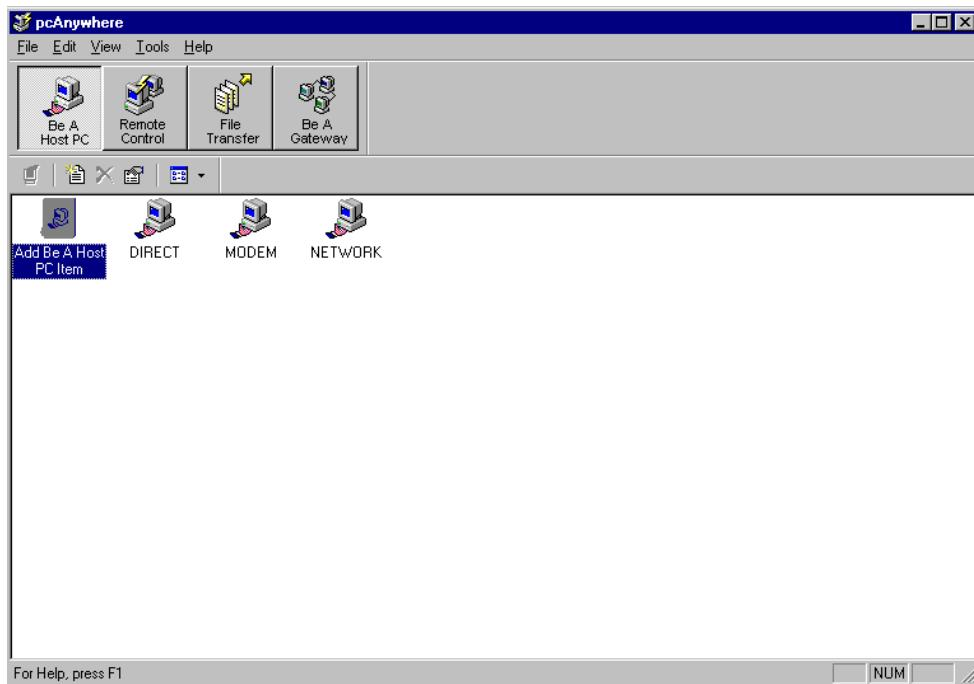

Figure 5-1. pcAnywhere “Be a Host PC” GUI
b. When the pcAnywhere GUI appears, click on the Be a Host PC button as shown in Figure 5-1.
- a. On the remote workstation click on the Symantec pcAnywhere icon, or select Start/Programs/Symantec pcAnywhere. A GUI similar to that shown in Figure 5-1 above will appear. This time click on the "Remote Control" button to select the remote control options.